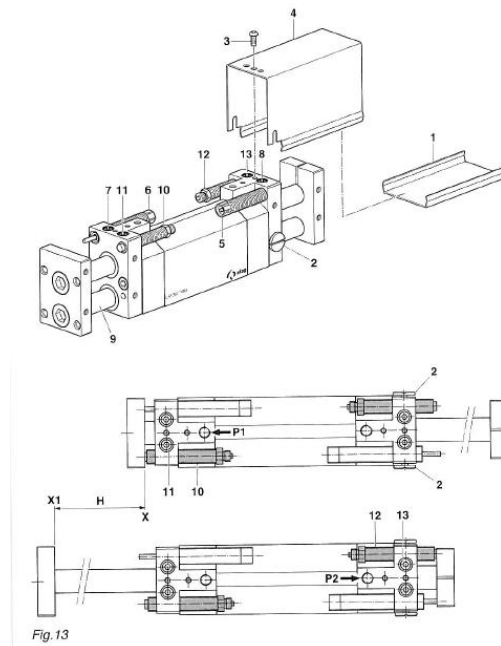

Fig. 19 Adjustment of stop screws AS 12/60
1. Pull out the protective unit (Fig. 19, 1).
2. Loosen screws (Fig. 19, 2) and remove screw (Fig. 19, 3).
3. Pull the hand guard (Fig. 19, 4) upwards.
4. Loosen the locking screw (Fig. 19, 7, 8) and unscrew the shock absorber (Fig. 19, 5, 6) approx. 5 turns anticlockwise.
- The slide (Fig. 19, 9) moves onto the stop screw (Fig. 19, 10).
6. Loosen the locking screw (Fig. 19, 11).
7. Determine the rear position (X) of the stroke (H) by adjusting the stop screw (Fig. 19, 10).
8. Secure position with locking screw (Fig. 19, 11) (One turn = 1 mm).
- The slide (Fig. 19, 9) is equipped with a linear guide (Fig. 19, 12).
10. Loosen the locking screw (Fig. 19, 13).
11. Determine the front position (X1) of the stroke (H) by adjusting the stop screw (Fig. 19, 12).
12. Secure position with locking screw (Fig. 19, 13).